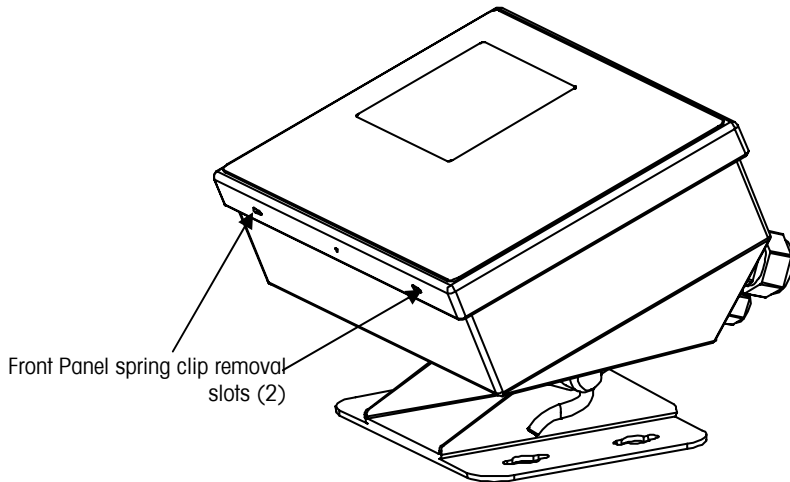

Figure A- 2: IND310drive Terminal Access
1. Insert the tip of a flat-blade screwdriver into one of the two slots located on the bottom of the front panel assembly (see Figure A- 2) and gently push in toward the enclosure. A “pop” sound is made when the cover is released.